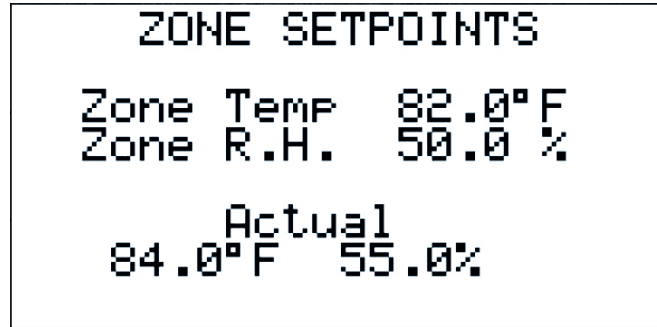

Figure 2
2.2 Zone Setpoints (Figure 2)
Pressing the **Prg** key from the Home Screen displays the ZONE SETPOINTS (Figure 2). This menu allows for modifications of the temperature and humidity setpoints specific to the unit. To modify the setpoints, press the **ENTER** key and use the arrow keys until the desired setting is shown. Press the **ENTER** key to accept the setpoint value.